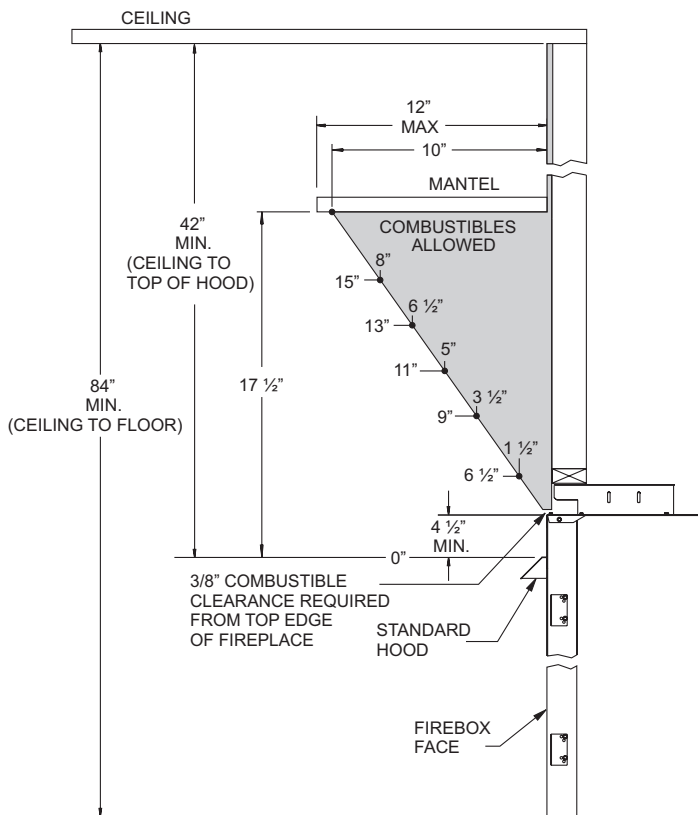

Figure 6a - Mantel Clearances with Standard Hood
**Ceiling Clearances:** The ceiling height should not be less than 42" from the top of the hood. See Figures 6a and 6b.